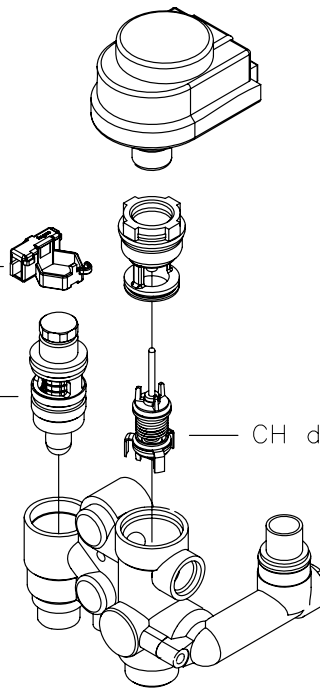

Fig.52
- 8.12.5** Unscrew the C.H.diverter valve as in Fig.52.
- 8.13. TO REMOVE/REPLACE DHW DIVERTER VALVE MECHANISM (Fig. 52).**
- 8.13.4** Remove the flow detector as fig.52.
- 8.13.5** Unscrew the DHW diverter valve as in fig.52.